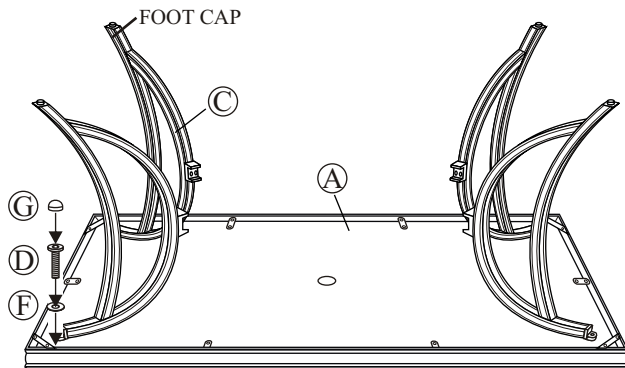

Fig.1
Step 2: Place the table top upside down on a flat, non-abrasive surface. Attach a table leg to the table top by using the bolt and washer as shown in **Fig.1**. Place the leg beneath the table top corner bracket and into the pre-drilled hole in the table leg. **Hand tighten only 3-4 revolutions only. Do not tighten completely.** Repeat for the other three legs.
Step 2: Working from behind the chair, have another person stand in front of the chair and position the sling seat frame in between the arms of the seat base as shown in **Fig.1** so that the holes on both sides of the upper portion of the seat frame back align with the fixed nut holes in the seat base.
Step 3: Important: We recommend 2 people work together to assemble the chair. Note the arrow labels on the "U" bar and the rocker assembly. Also note the horseshoe shape of the rocker plate. Point the open end of the horseshoe away from you. The arrows on the rocker assembly should be pointing towards you. Set the chair frame on the rocker assembly with front of the seat facing you and the arrows on the "U" bar pointing towards you as shown in *Figure 1*. This is very important for a safe, balanced rocking motion. **If chair frame has been properly positioned on the rocker assembly, all arrows on the "U" bar and rocker assembly will be pointing in the same direction.**
Step 4: Critical Step: The "U" metal plates must be installed in the proper location. Read this step and carefully examine. Insert the "U" metal plate, so that the "U" bar and rocker plate are between both sides of the "U" metal plate. Make sure that the holes in the "U" metal plate are completely aligned with the holes in the "U" bar as shown in *Figure 1*. Guide the bolts through the holes on the top side of the "U" metal plate, through the holes in the "U" bar portion of the chair, through the holes in the rocker plate and then, most importantly, through the holes in the bottom side of the "U" metal plate. It is very important that the holes in the bottom portion of the "U" metal plate be placed directly beneath the holes in the rocker plate. Add a spring washer and a nut to each bolt as shown in *Figure 2*. **Hand tighten nuts 3-4 revolutions only.** Repeat the same procedure on the other side.